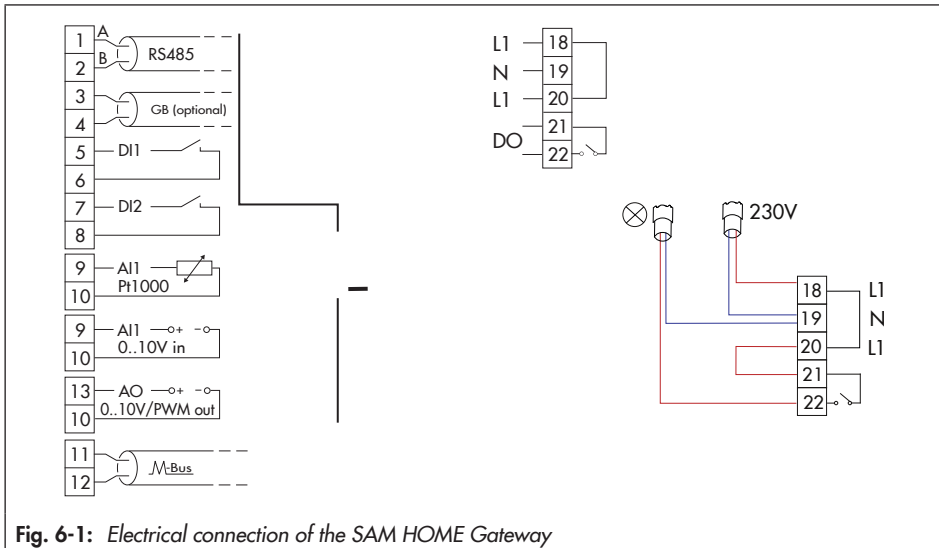

Fig. 6-1: Electrical connection of the SAM HOME Gateway
- Refer to the connection diagram (see Fig. 6-1).